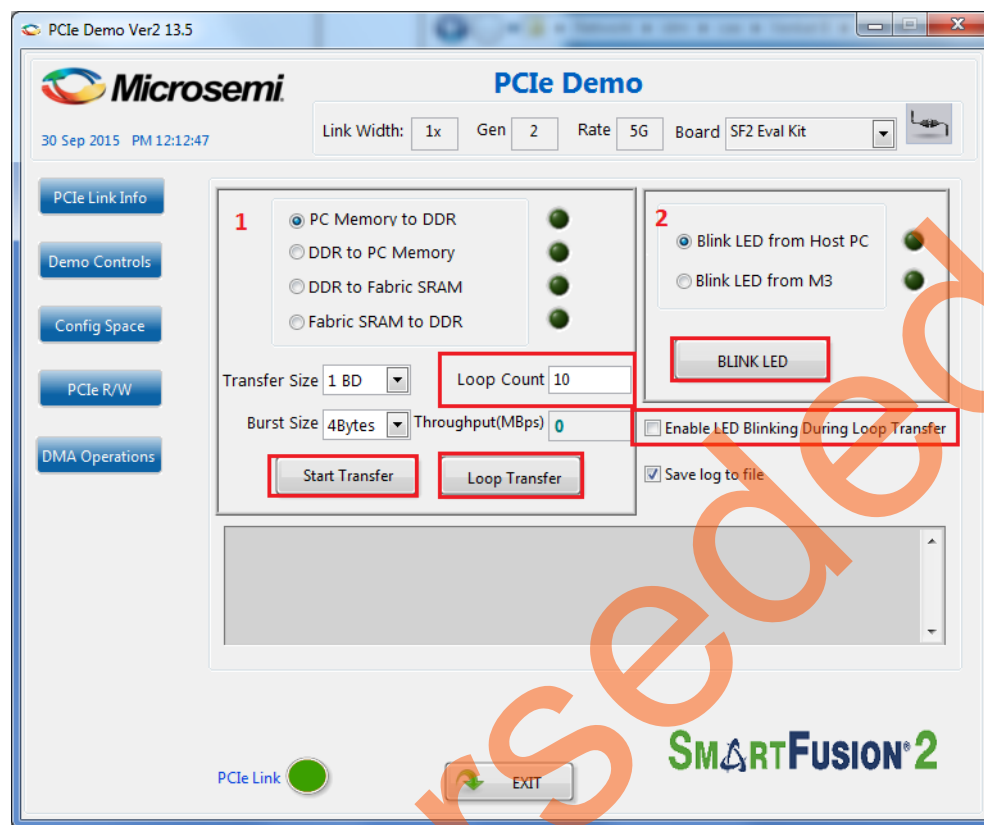

Figure 16 • DMA Operations
5. Click **DMA Operations**. The controls are displayed as shown in Figure 16.